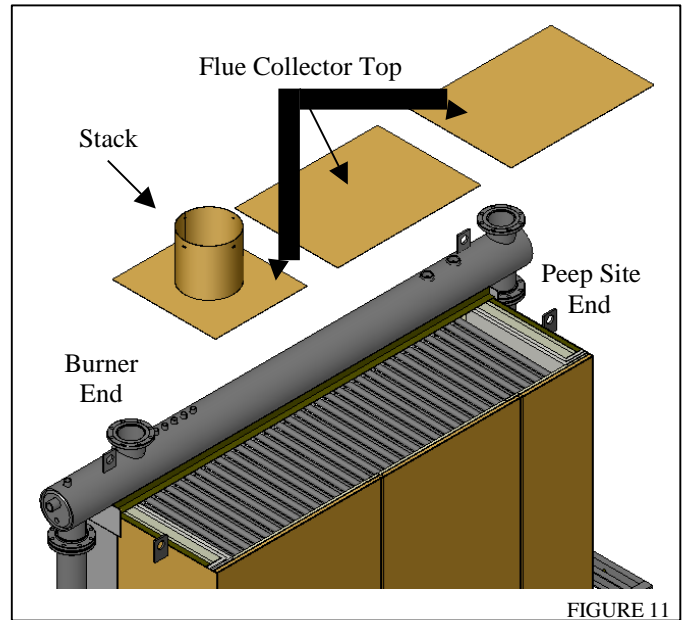

FIGURE 11
3.11 The flue collector top sits on top of the flue collector box, panels overlapping. The stack goes toward the burner end of the flue box. See figure 11. The “T”-shaped baffle is welded to the bottom of the flue collector top and is located according to the placement of the first vertical baffle. See figures 8 & 9, page 6.